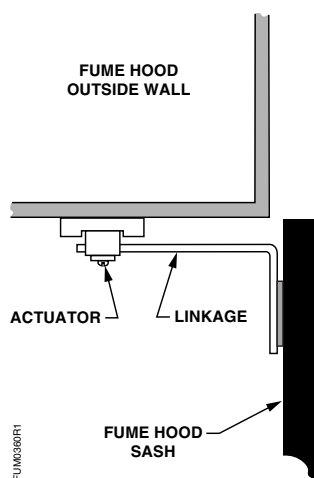

Figure 13. Linkage on a 90° Angle.
6. **For sensors mounted at a 90-degree angle,** bend the linkage at a 90° angle on the mark so the linkage is parallel to the sash (Figure 13).